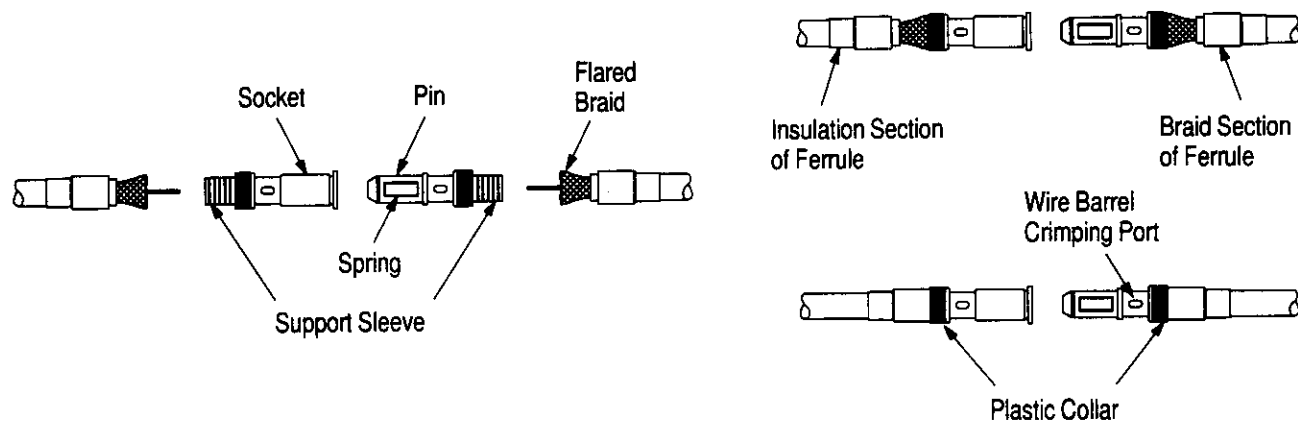

Figure 4
**4.1. Coaxial and Shielded Cable (Figure 4)**